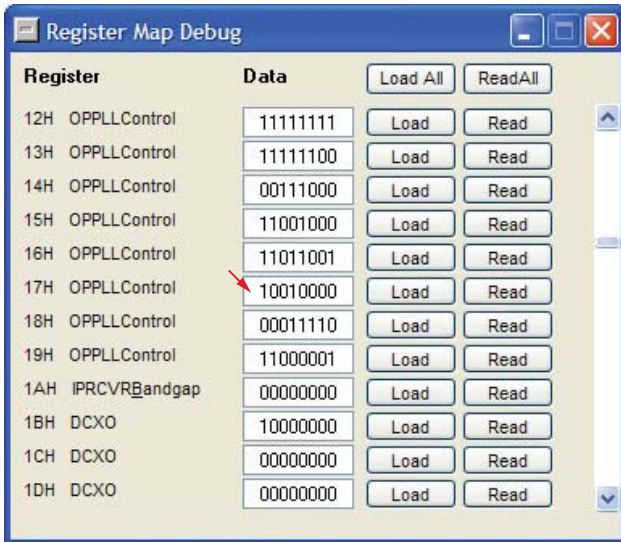

Figure 25. Register Debug Window
- From the **View** menu in the main window, select **Register Debug Window**. The window shown in Figure 25 appears.